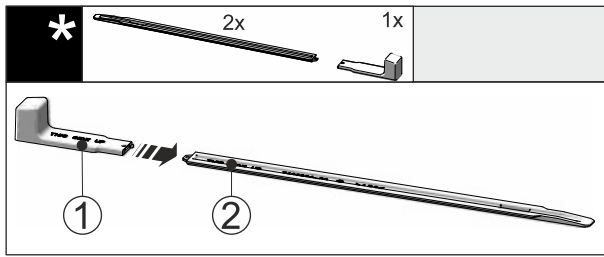

Fig. 46
- ▶ Attach the installation handle Fig. 46 (1) to the levelling rail Fig. 46 (2).